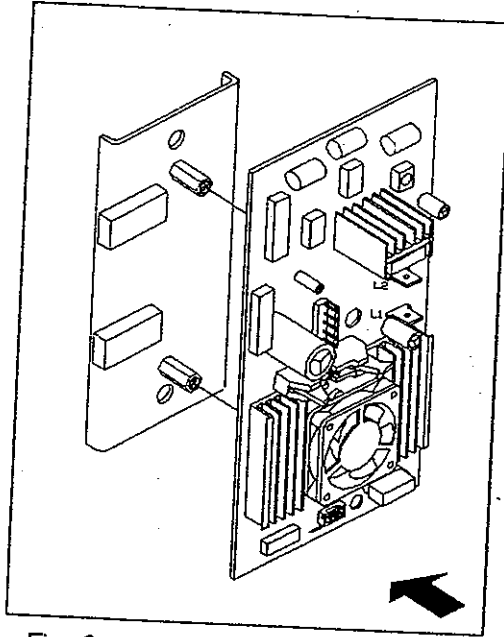

Fig. 9
1. Place a new drive board into the front of the machine. Secure with two screws (see Fig. 9 & 10).